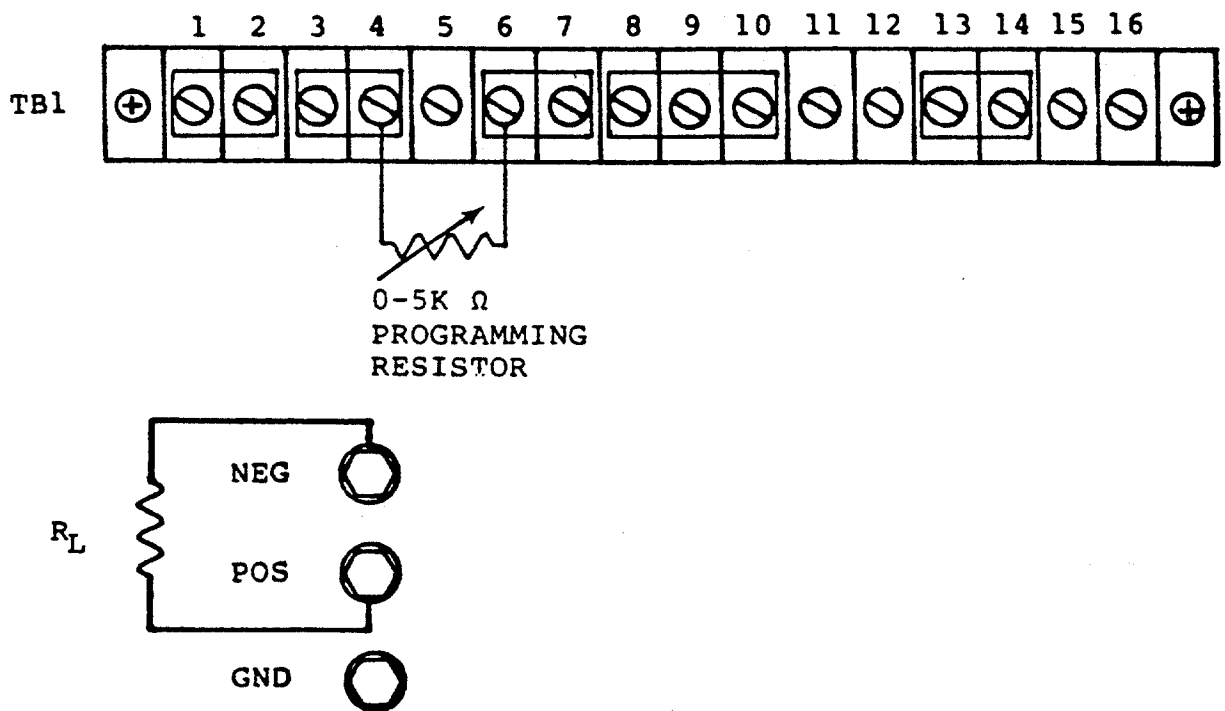

Figure 3-5. Remote Resistance Programming of Output Voltage
(1) External Voltage Programming Using Resistance. The resistance coefficient for remote voltage programming is 5k ohms = 100% of rated output voltage. The programming current from terminal 3 is factory set to 1.000 mA. If multiple switches or relays are used to program different levels, make-before-break contacts are recommended. See Figure 3-5 for strapping requirements.